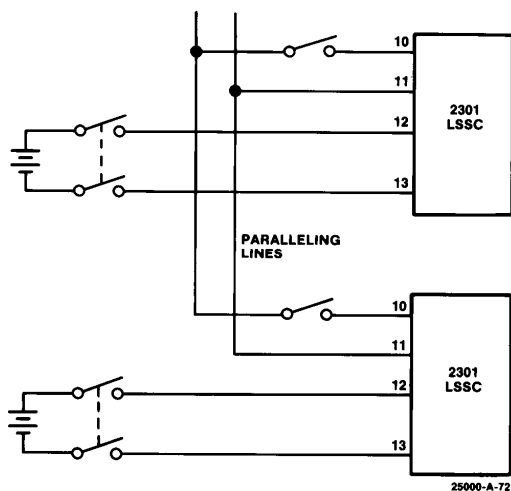

Figure 7. Hardwired Paralleling Line Common
2. An isolated power supply can be used for each load sharing control. See item 4 of "Power Input and Power Supplies". In this case terminal 11 need not be disconnected from the paralleling line bus when the generator is not paralleled. See Figure 7.